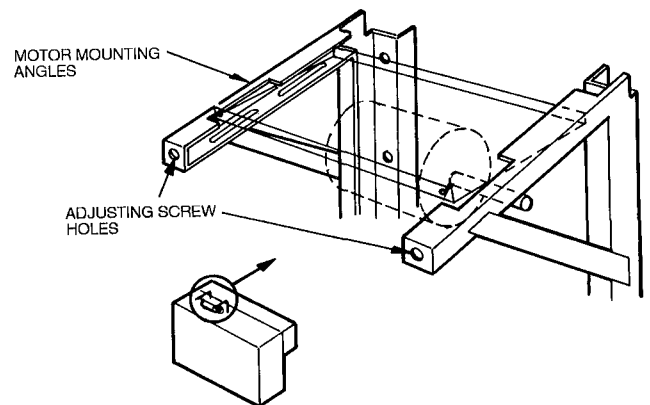

**Fig. 6 – 50BJ,BK028 and 034 Horizontal
- a. Fasten motor mounting angle bracket to fan section. Use Fig. 4 or 5 for position reference and Fig. 6 for assembly guidance. Be sure that lips of angle brackets are around fan section frame and that slots for motor mounting plate face each other.
- c. Lift motor-plate assembly and slide into motor mounting angles as shown in Fig. 6. Plate fits into angle slots. On vertical mounts, the motor mounting assembly can be lowered to bottom of motor support channels.
- c. Lift motor-plate assembly and slide into motor mounting angles as shown in Fig. 6. Plate fits in angle slots. On vertical mounts, the motor mounting assembly can be lowered to bottom of motor support channels.